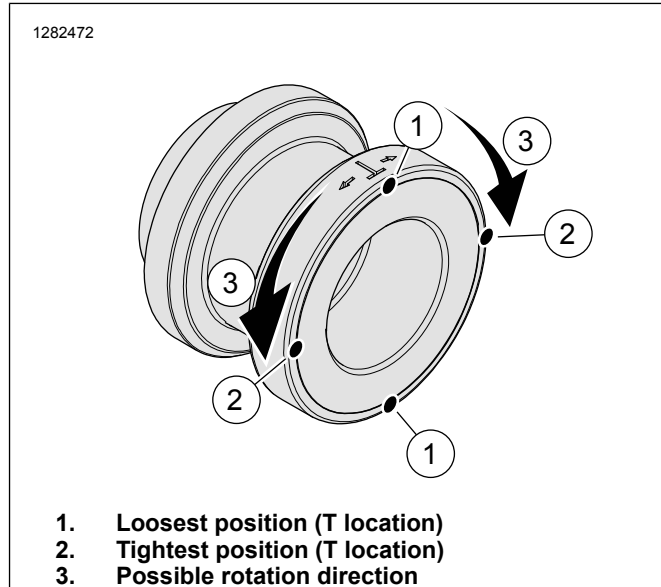

Figure 5. Docking Point Flats
2. See Figure 5. To adjust, rotate (3) in small increments so the "T" (1) is no longer on top and approaches either position (2).
4. Continue rotation in small increments and test until desired tightness is achieved. The tightest possible position is when the "T"s reach position (2).
1. See Figure 5. Record the current "T" position for each docking point. Remove screw from rear docking point.